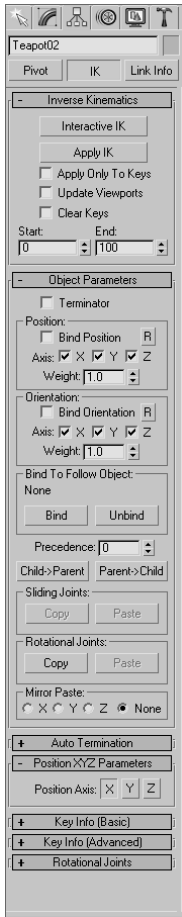

Figure 3.21
Inverse Kinematics (IK) is a method often used in character animation; it provides an easier way to move the parts of a character's armature by using IK handles to place the limb's extremities, such as the feet. You simply animate the placement of the feet, and IK solves all the necessary rotations of the leg bones and animates the legs into the proper placement for the feet. The IK panel is shown in Figure 3.21. You will see how IK and bones work in Chapter 9, "Animation Part II: Character Studio and IK."